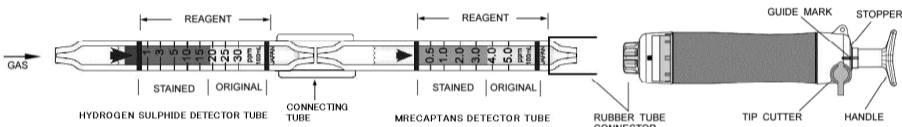

Fig.1
- ① Break both ends of detector tube, and connect each end of detector tubes with a rubber tube as shown in Fig.1. (Arrow mark shall point to the pump.)
- ② Insert the MERCAPTANS detector tube into aspirating pump securely as shown in Fig.1. (Arrow mark shall point to the pump.)
- ③ Align the guide marks on the shaft and stopper of the aspirating pump.
- ④ Pull the pump handle at full stroke until it locks until it waits for 3 minutes or until the completion of sampling is confirmed with the flow indicator of the pump (See descriptions about the flow indicator in the instructions of the pump).
- ⑤ On completion of sampling, read the scale at the maximum point of the stained layer.
- ① Temperature: No corrections is necessary.
- ② Humidity: Hydrogen sulphide: No corrections is necessary.